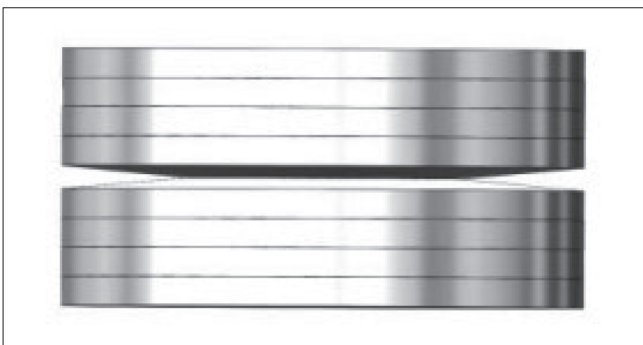

Fig. 15 Disc spring stack indicative view
- See Figure 15 for details
- For Class 150 & 300 rated valves, install the cap screws (33) and and tighten them (refer Table-2). For 600, 900, 1500 rated valves, install gland (32/54), disc springs used for live loading (57), flat washers (59), hex nut (56), and tighten (refer Table-3). See below an indicative figure for arranging disc springs. Actual no. of springs can vary but shown below is a general arrangement.